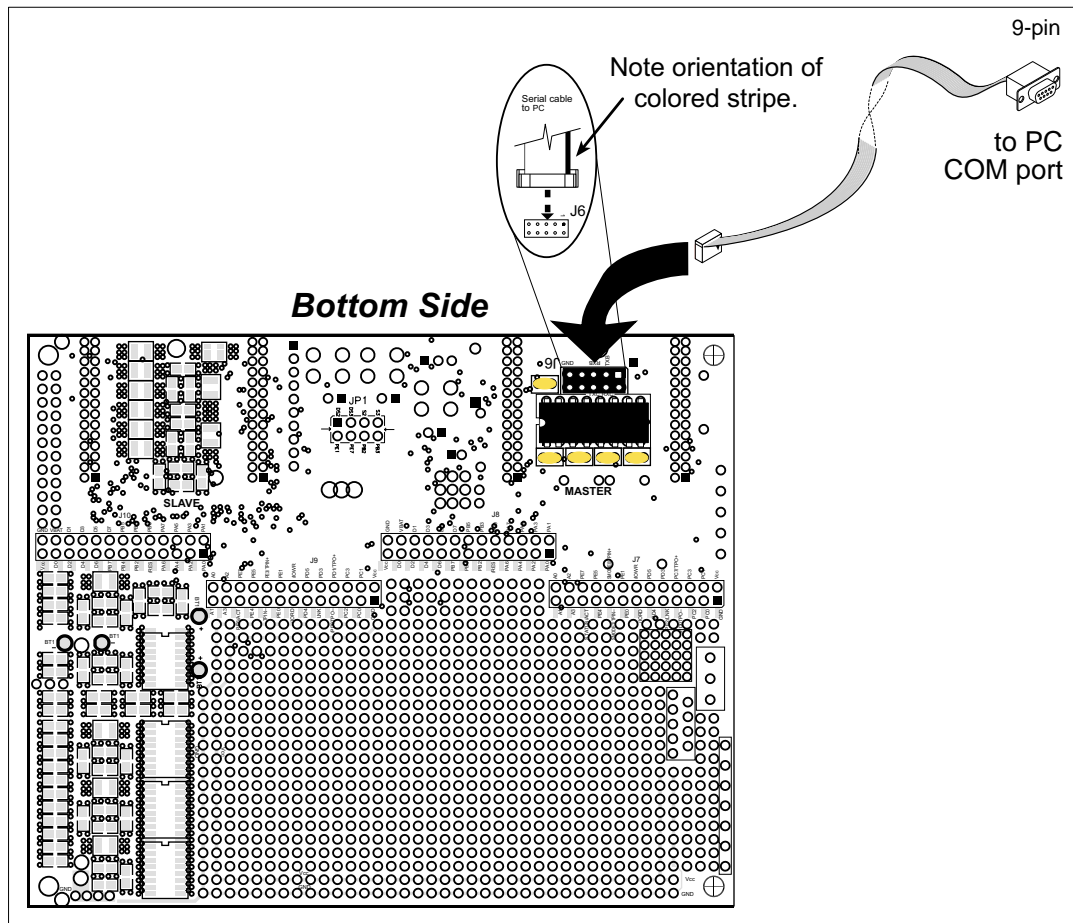

Figure B-3. PC Serial Connections to Demonstration Board
4. Remove and set aside Rabbit programming cable. Turn the Demonstration Board over, and connect a 10-pin to DE9 cable to header J6 on the bottom side of the Demonstration Board as shown in Figure B-3.